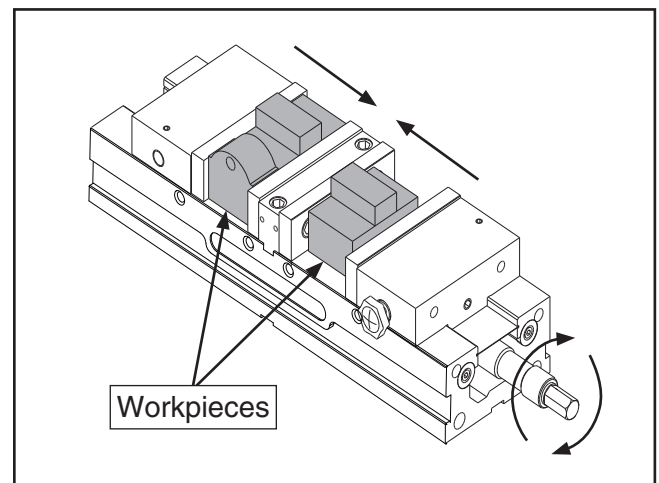

Figure 4. Tightening workpieces.
2. Once both sides contact their workpieces, apply final tightening pressure. Force will automatically be evenly distributed to both sides (see **Figure 4**).